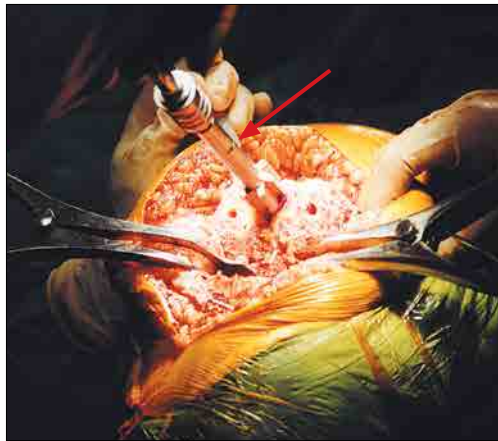

Figure 21
- Ream to “Bone” mark on femoral offset reamer (Figure 21)